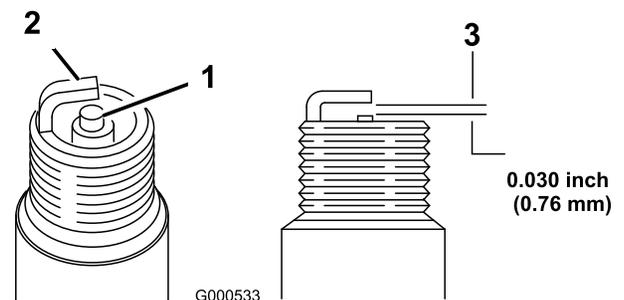

Figure 30
1. Look at the center of the spark plugs (Figure 30).
2. Check the gap between the center and side electrodes (Figure 30) and bend the side electrode, if the gap is not correct.